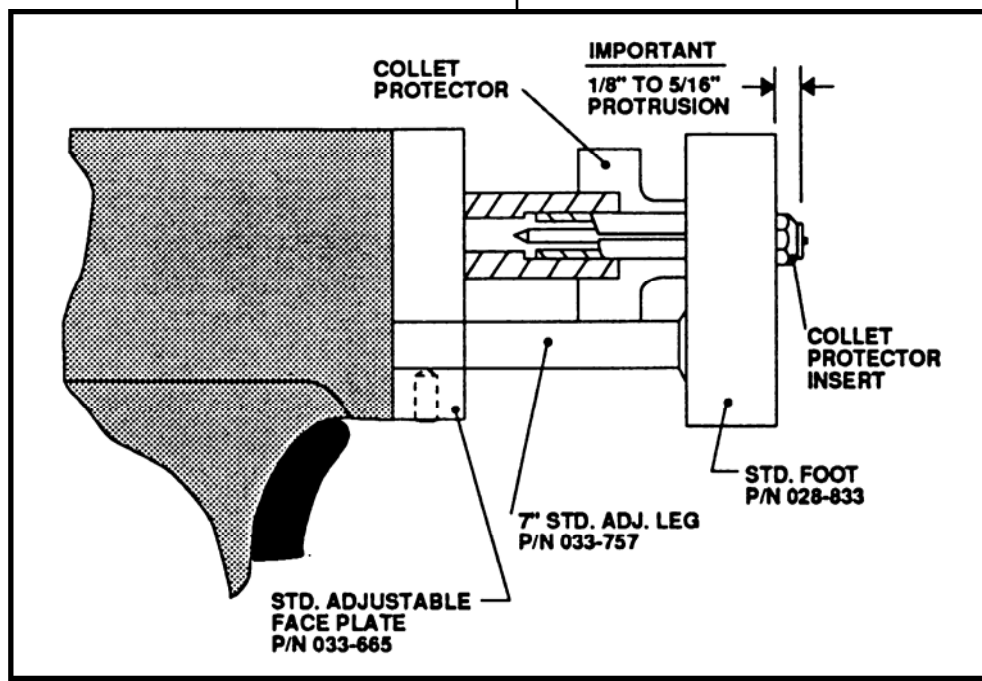

Figure 7 Collet Protector Gun Setup
The standard adjustable legs and footpiece combination can alternately be used with the collet protector as shown in Figure 7.
11.4 TEMPLATE ADAPTER (see Figure 7)